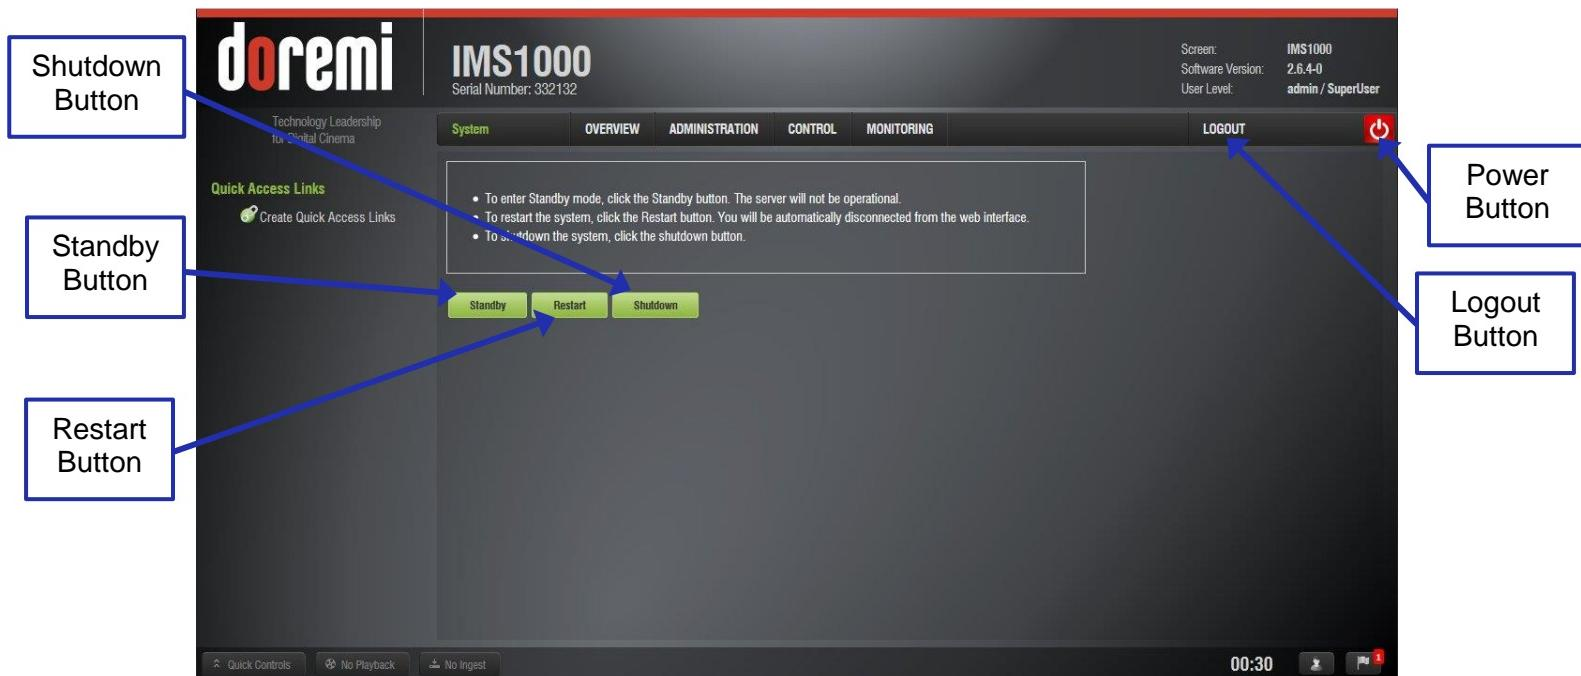

Figure 163: System GUI
- To restart the IMS1000, press the Restart button. You will be disconnected from the web interface in 5 seconds (Figure 163). The user has the option to cancel the action.
- To shut down the system, click the Shutdown button (Figure 163).
- To place the unit in standby, click on the Standby button (Figure 163). The user will be asked to confirm the operation.
- Clicking the Logout button will automatically logout the user (Figure 163).
- Clicking on the red Power button will give the user the option to restart, shutdown, or cancel (Figure 163 and Figure 164).